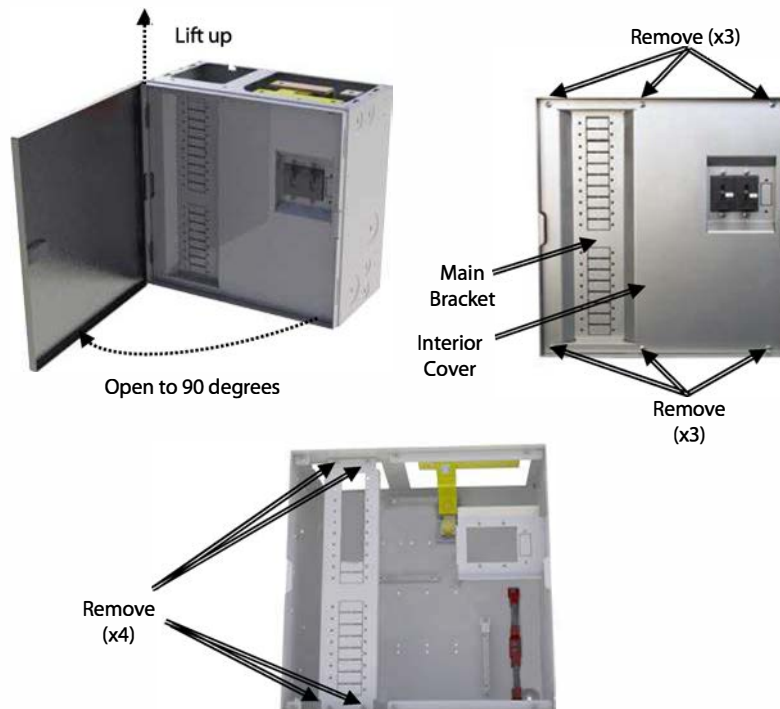

Figure 3 Removing the Covers and Main Bracket
1. Remove the front cover (sometimes called the "front door") of the GSLC. Open the door to 90 degrees and lift up about 1/2" to disengage it from the GSLC (see Figure 3).
2. Remove the interior cover (sometimes called the "dead front") of the GSLC. Remove the six screws installed across the top and bottom of the cover (see Figure 3) and take the interior cover off.¹
3. Remove the main circuit breaker bracket. Remove the four screws at the top and bottom of the bracket (see Figure 3) and take it off.¹
5. Re-install the main circuit breaker bracket using the four screws and any star washers that were previously removed. Use the illustrations in Figure 3 on page 5 for reference.
At this stage, the installation is complete. The interior cover must be re-installed using the six screws and star washers previously removed. The front cover can then be re-installed. Use the illustrations in Figure 3 on page 5 for reference.